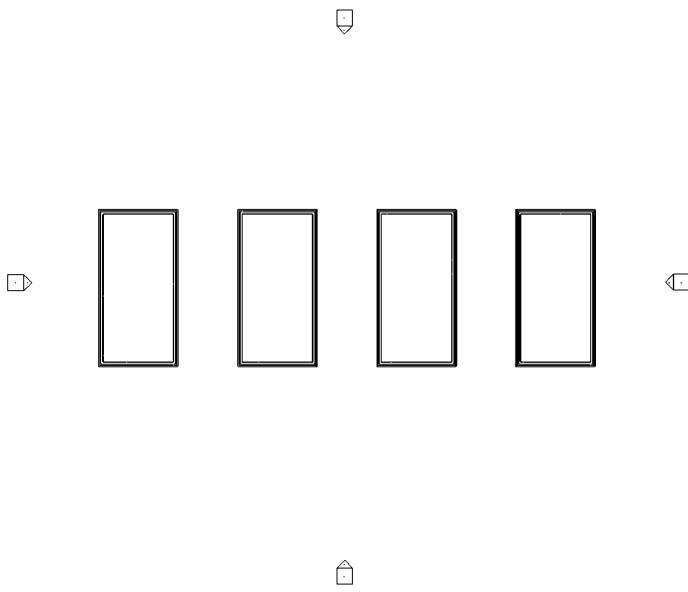

FIGURE 8-1.2 Four buildings
6. Drag a window around the walls to select them. Then use the **Array** command to set up four buildings **35'-0" O.C.** (Figure 8-1.2). See the *Array Tip* below.